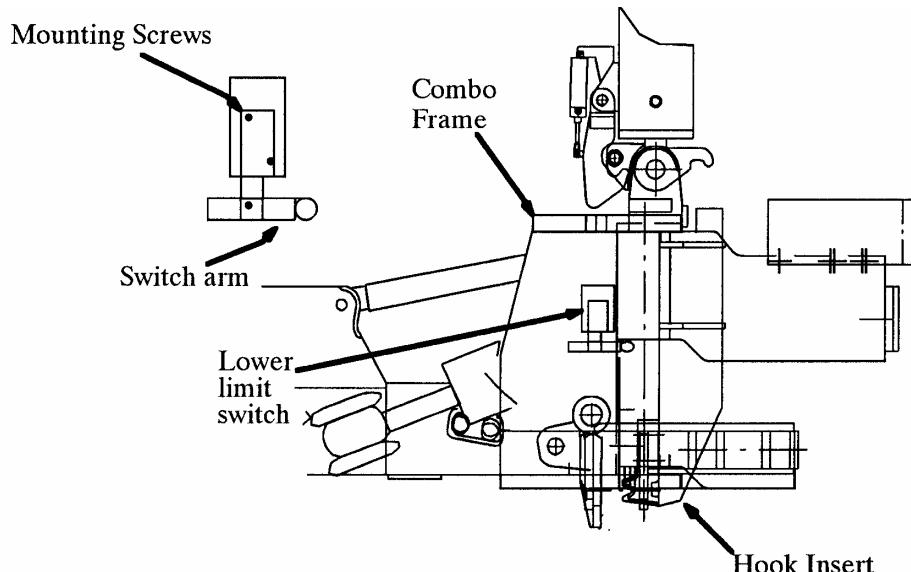

Figure 4-45
7. With the hook frame resting at the lower limit switch there should be approximately  $\frac{1}{2}$  inch (12 mm) clearance between the top of the hook insert and the bottom of the rail-head. See figure 4-45.
8. Adjust as necessary. Loosen the two (2) mounting screws and raise or lower the limit switch until the desired clearance is achieved.